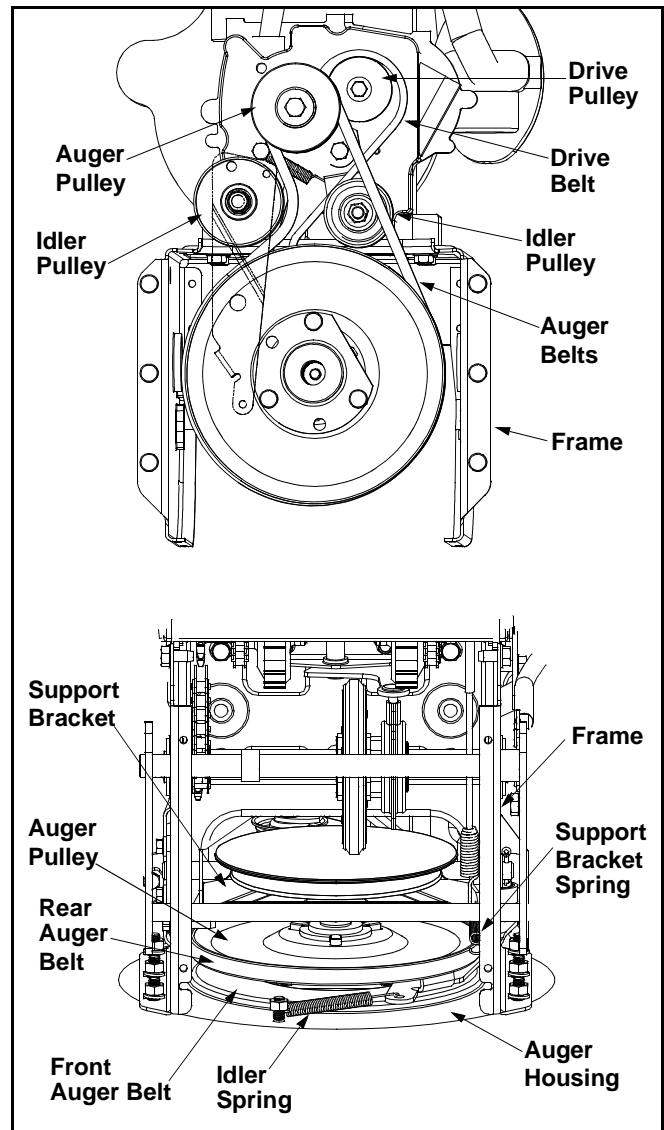

Figure 15
- Roll the front and rear auger belts off the engine pulley. See Figure 15.
- Unhook the idler spring from the hex bolt on the auger housing. See Figure 15.